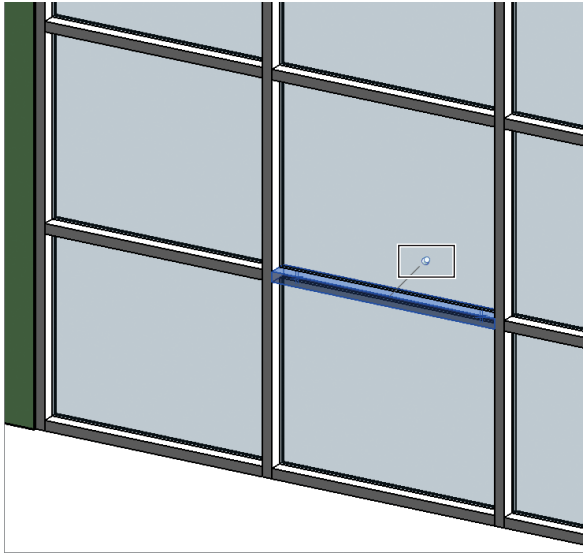

FIGURE 2.27 Unpinning the mullion
2. Notice the pin icon just above the mullion in Figure 2.27. Click the pin icon to unpin the mullion.